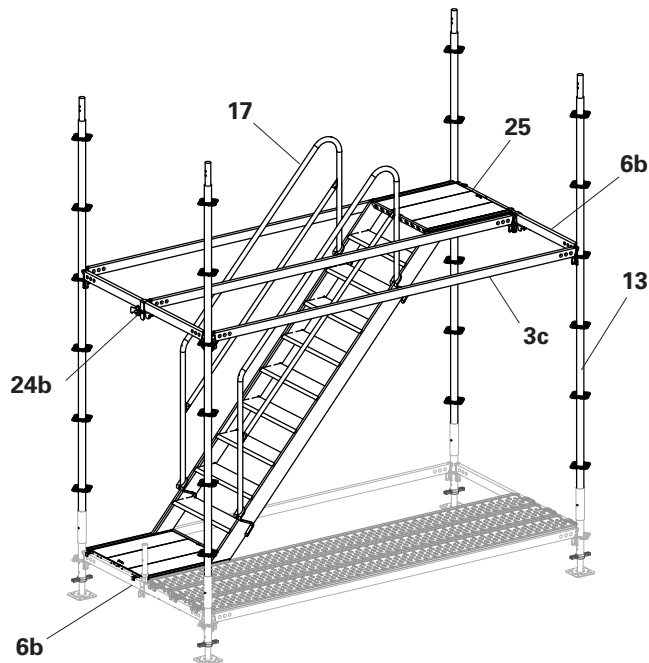

Fig. A10.06
3. Remove Staircase UAS-2 (25), Stair Guardrails UAG (17).
4. Remove the Horizontal Ledgers UH-2 300 (3c), Ledgers UH-2 150 (6b), Ledger Brackets UHA Half (24b) and Standard UVH-2 300 (13). (Fig. A10.06)